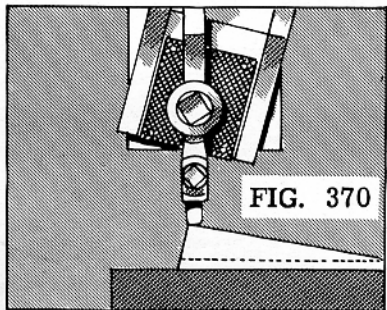

FIG. 370
1. Move the table horizontally until the work is under the tool (Fig. 370).
2. Loosen the clamps on the cross rail and adjust the table vertically until the work just touches the tool (Fig. 370).
9. Start the machine and move the tool down with the down-feed handle until the tool touches the high point of the work (Fig. 370).